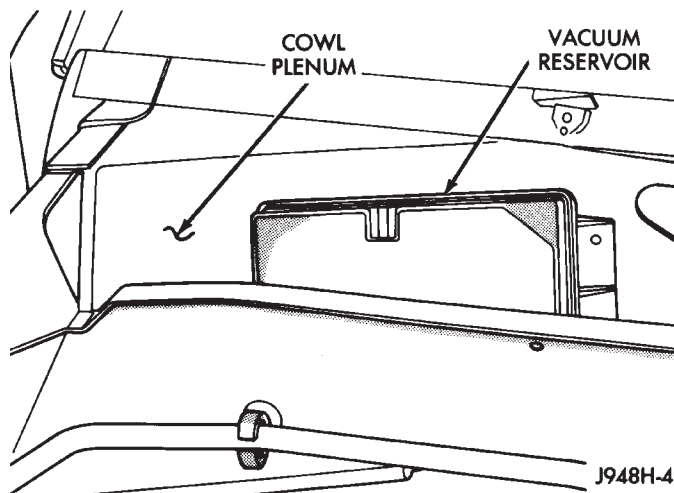

Fig. 41 Vacuum Reservoir
(5) Lift the cowl plenum cover/grille panel from the cowl top far enough to access the vacuum reservoir near the right end of the cowl plenum.
(6) Disconnect the vacuum supply hose from the vacuum reservoir, which is secured to the dash panel near the right end of the cowl plenum (Fig. 41).